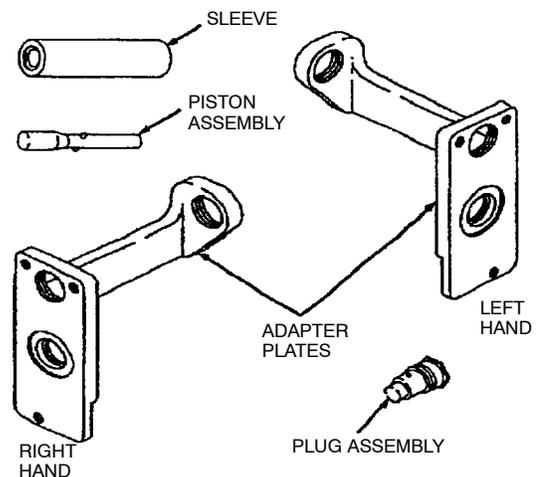

Figure 3. Parts Required
a. Parts required for assembly (Figure 3).